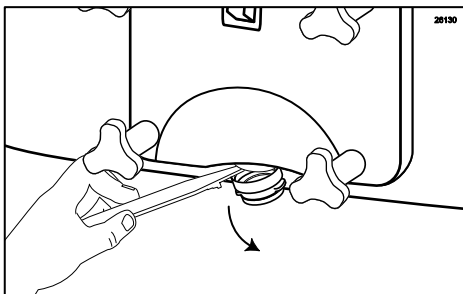

Figure 86
2. Remove the Spout Adapter from the freezer head. Since the fitting is very tight, you may need to use a small tool to pry the Adapter from the door spout. (See Figure 86.)